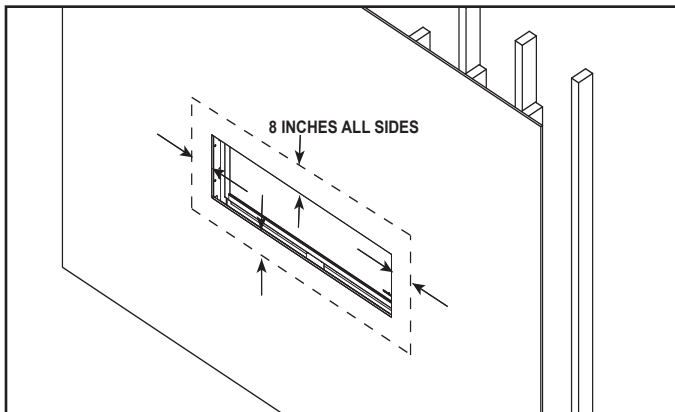

Figure 10.5 Feather Mud Evenly
- 3. Apply the sheetrock mud. When applying the mud, feather it evenly around the opening throughout the zone shown in Figure 10.5. A smooth, even surface, covering a wide area of the wall is desired for best results. For best results, follow the tips below.